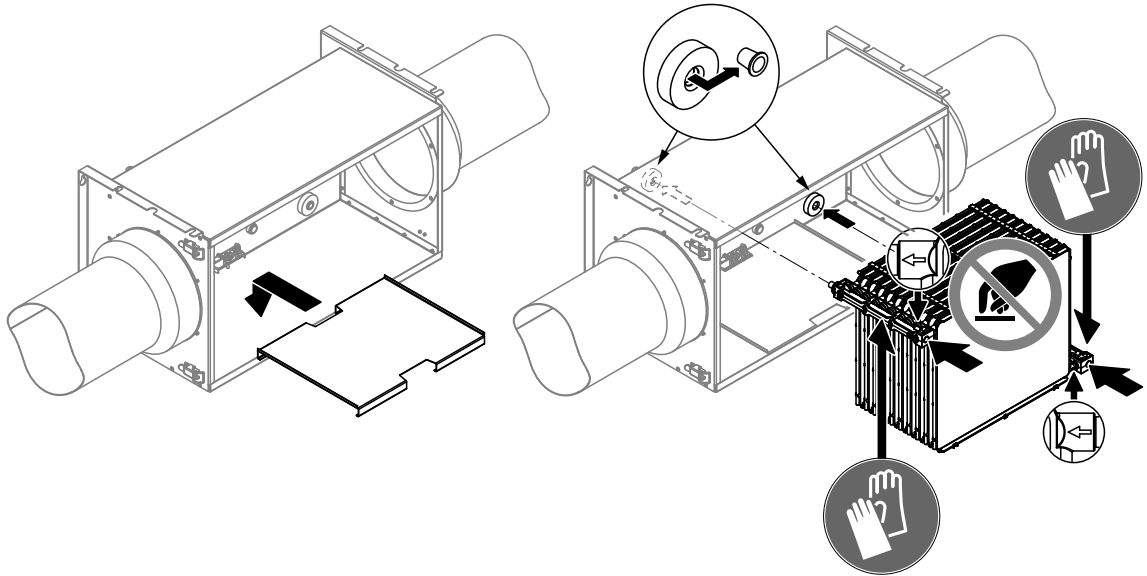

Fig. 18: Installing the base panel and humidifier insert
10. Insert the base panel into the humidifier housing (see Fig. 18).